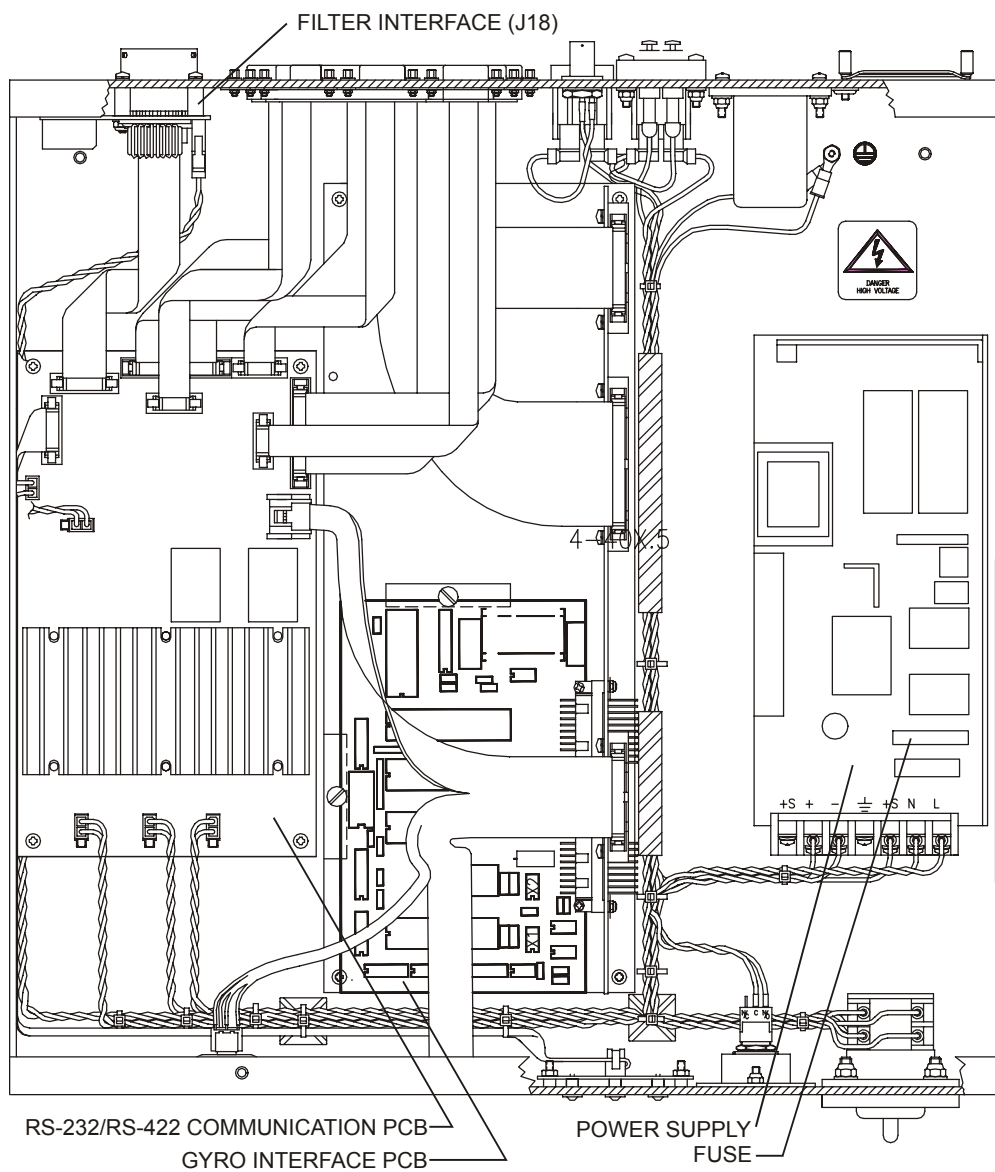

Figure 4. Deck Box (Top View)
- c. Locate the Filter Interface board (see Figure 4, page 5). Locate connector J18 and disconnect the twisted black and white cable plugged into this connector. The power from the deck box to the ADCP has now been disabled. Only the batteries are powering the ADCP.